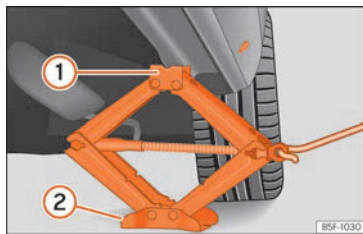

Fig. 200 Crossbar: mounting the jack on the vehicle.
- Turn the jack crank handle, located below the strut support point, to raise it until the tab **1** » **Fig. 200** is below the housing that is provided.